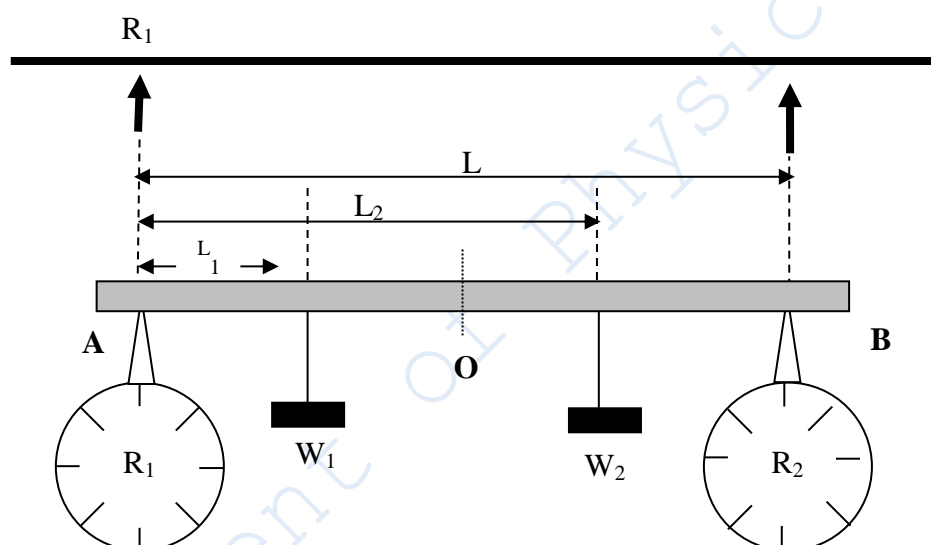

Fig. 3-1.
Consider a beam of length AB carrying weights W_1 and W_2 and being supported by two springs of tensions R_1 and R_2 respectively as shown in Fig. 3-1. We can see that for the beam to remain in equilibrium, the total upward force (R_1 and R_2) should balance the total downward force (W_1 and W_2).
1. Set up the apparatus as shown in Fig. 3-1.